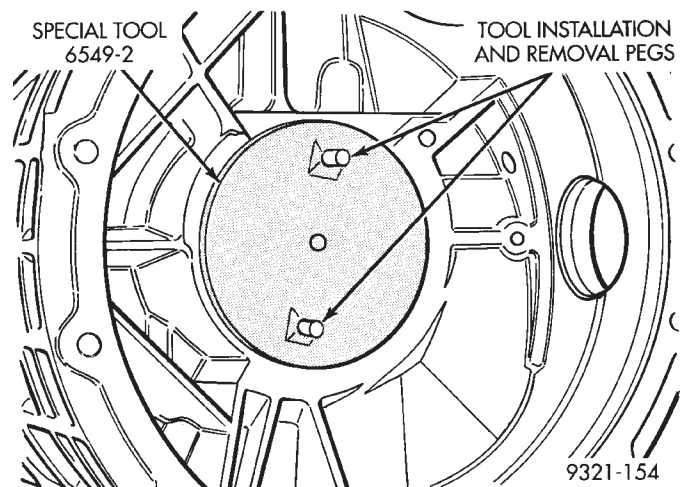

Fig. 301 Installing Centering Block
(2) Install centering block (special tool 6549-2) into the transaxle case (Fig. 301). Screw centering block into inner adjuster hole of case until it bottoms. The pegs on the special tool are only used for installation. Orientation within the case is not required.